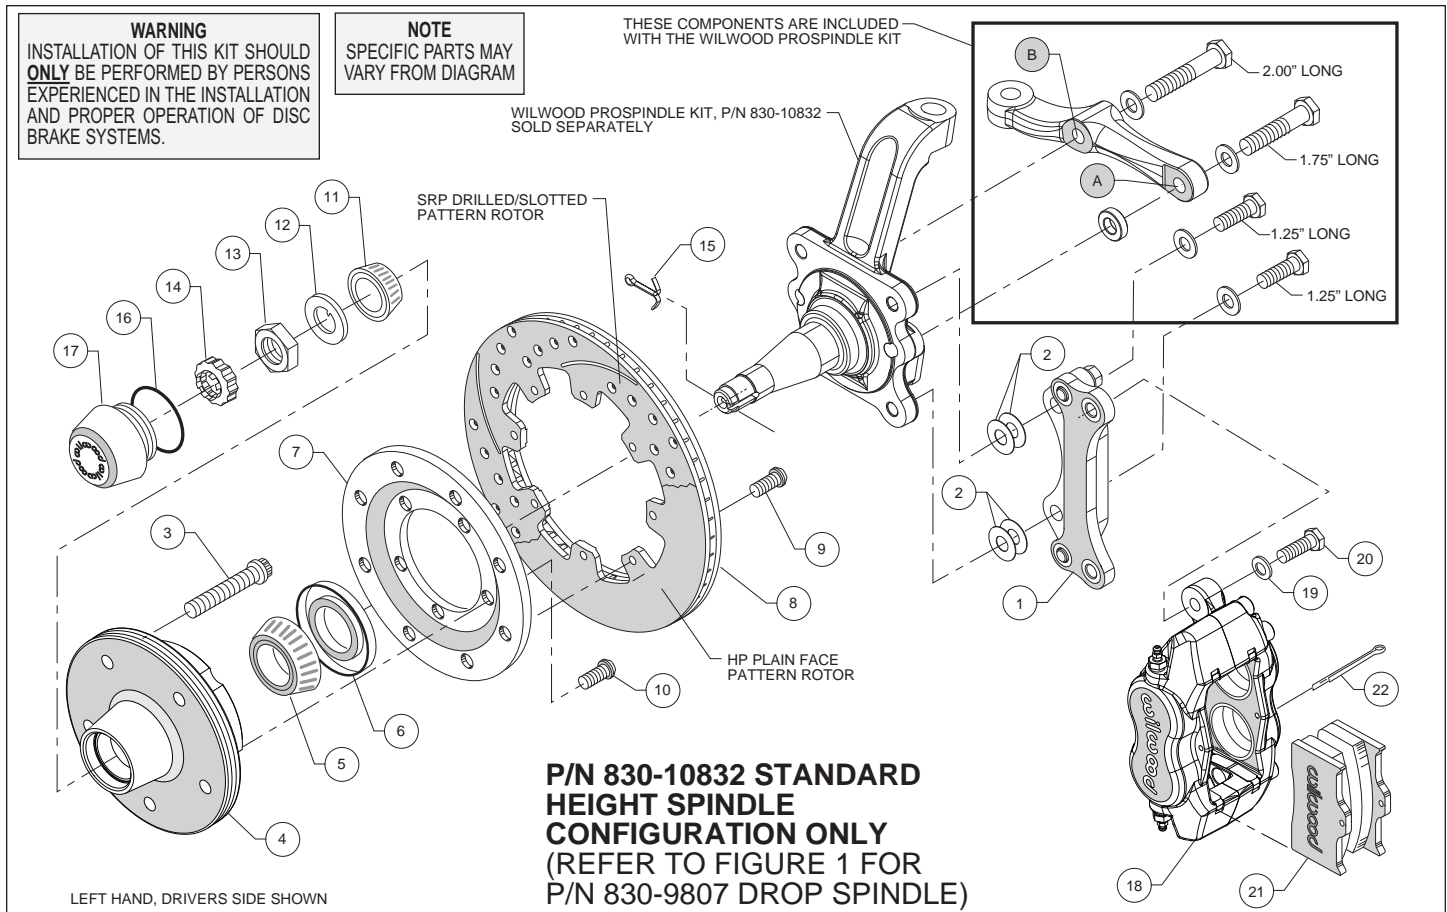

Figure 2. Installation Configuration for Standard Height Spindle, P/N 830-10832
- Orient the bracket as shown in Figure 2 and Photo 2. Install using 1.25" long bolts and .06" thick washers (from ProSpindle kit), and two .016" thick shims (2) on each bolt between the bracket and spindle, Figure 2. Temporarily tighten mounting bolts. **NOTE:** *The bracket must fit squarely against the mounting points on the spindle.* Inspect for interference from casting irregularities, machining ridges, burrs, etc. Later, after the caliper alignment has been checked, the mount bolts will be secured using red Loctite® 271.
- Orient the steering arm, and identify the hole marked 'A', as shown in Figure 2. Install using 1.75" long bolt, .06" thick washer, and .30" thick spacer (all from ProSpindle kit), Figure 2.
- Finish attaching the steering arm through the hole marked 'B', as shown in Figure 2. Install using 2.00" long bolt and .06" thick washer (from ProSpindle kit), Figure 2.